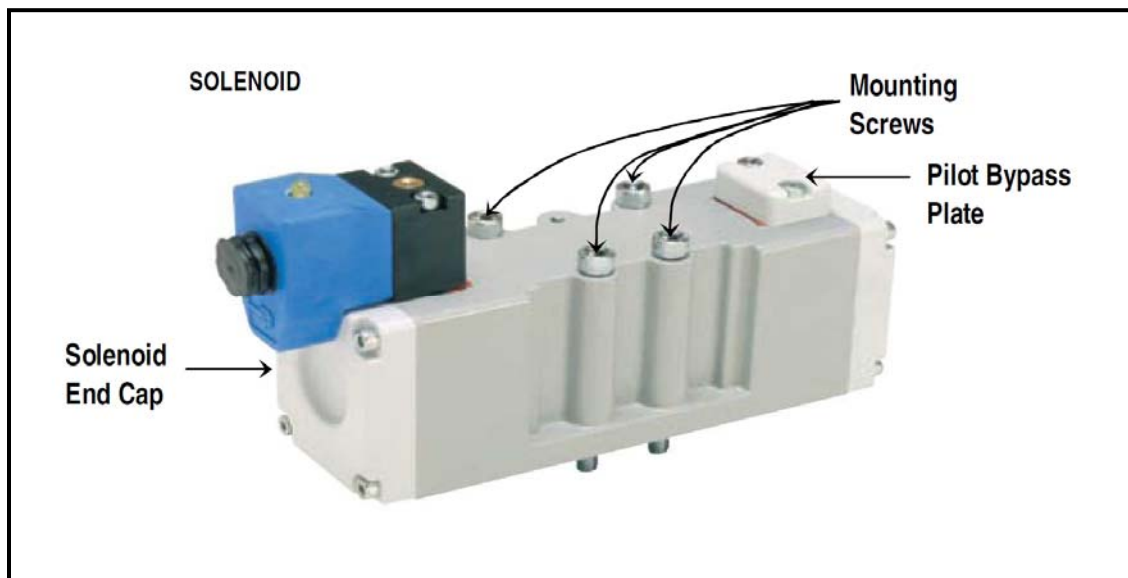

Figure 16: Typical Parker H-Series Pilot Valve
2. Remove four mounting screws on pilot valve body using 4mm hex key (Figure 16) to disengage from stack.
- a. Remove two solenoid screws using 3mm hex key (See Figure 16).